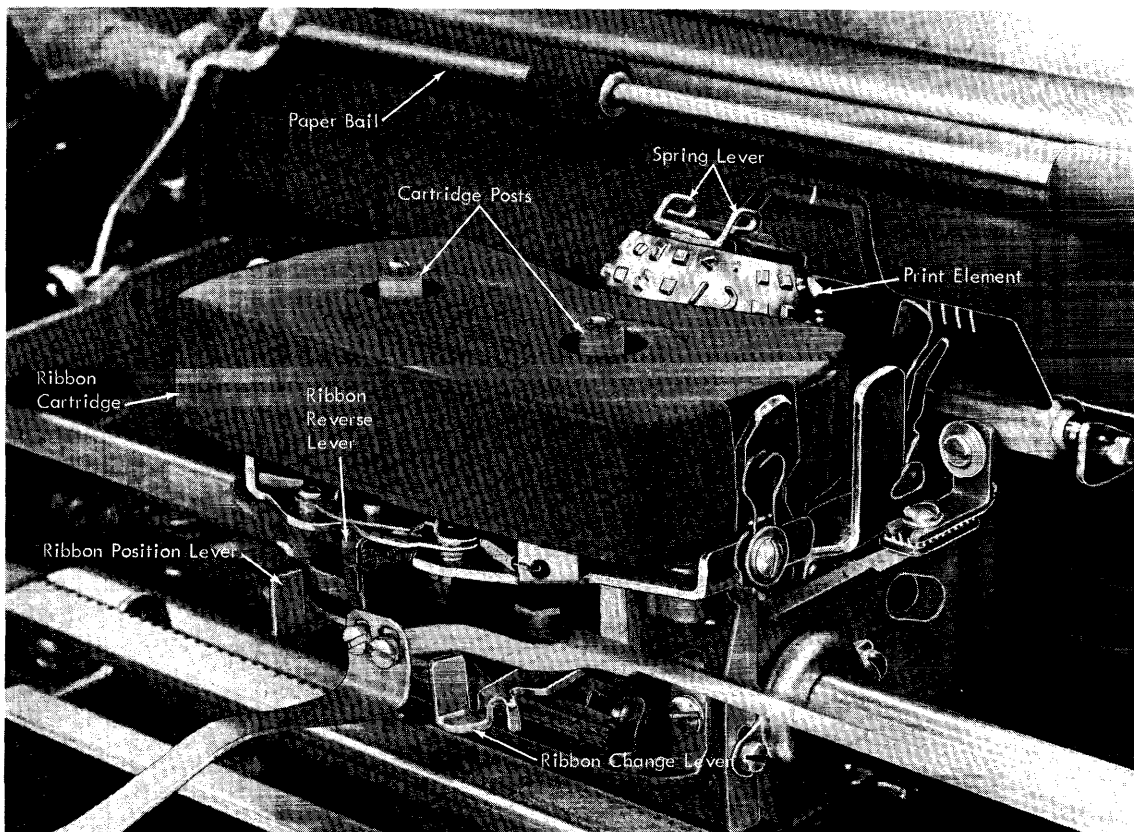

Figure 36. 1052 and 1053 Printing Mechanism
4. Press the spring levers (on top of print element, see Figure 36).